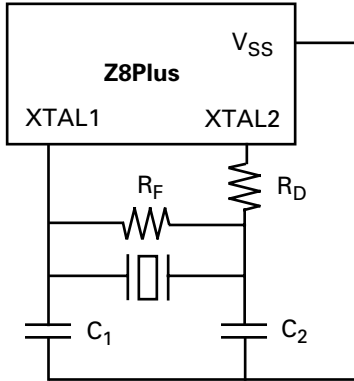
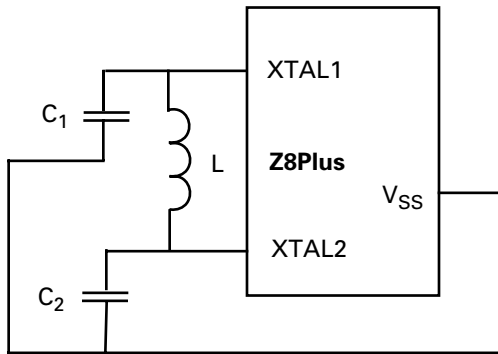
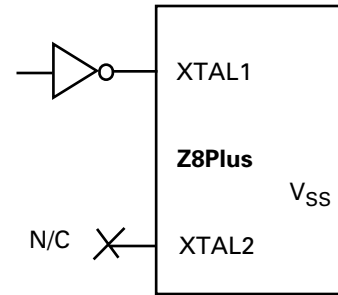

Figure 16. Crystal/Ceramic Resonator Oscillator
Figure 17. LC Clock
Figure 18. External Clock
Figure 16, Figure 17, and Figure 18 recommend that the load capacitor ground trace connect directly to the V_{SS} (GND) pin of the Z8Plus. This requirement assures that no system noise is injected into the Z8Plus clock. This trace should not be shared with any other components except at the V_{SS} pin of the Z8Plus.
The Z8Plus oscillator can use an inductor capacitor oscillator (LC) network to generate an XTAL clock (Figure 17).